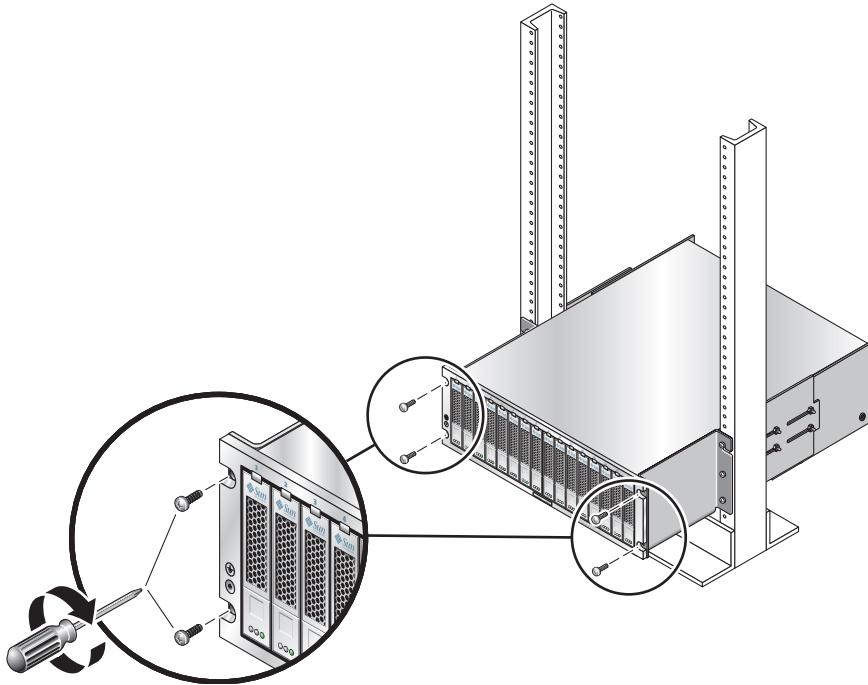

FIGURE C-7 Securing the Tray to the Front of the Rack
4. Use the #2 Phillips screwdriver to insert and tighten four 10-32 x 1/2 " screws, washers, and nuts (two each per side) to secure the tray to the front of the rack (FIGURE C-7).